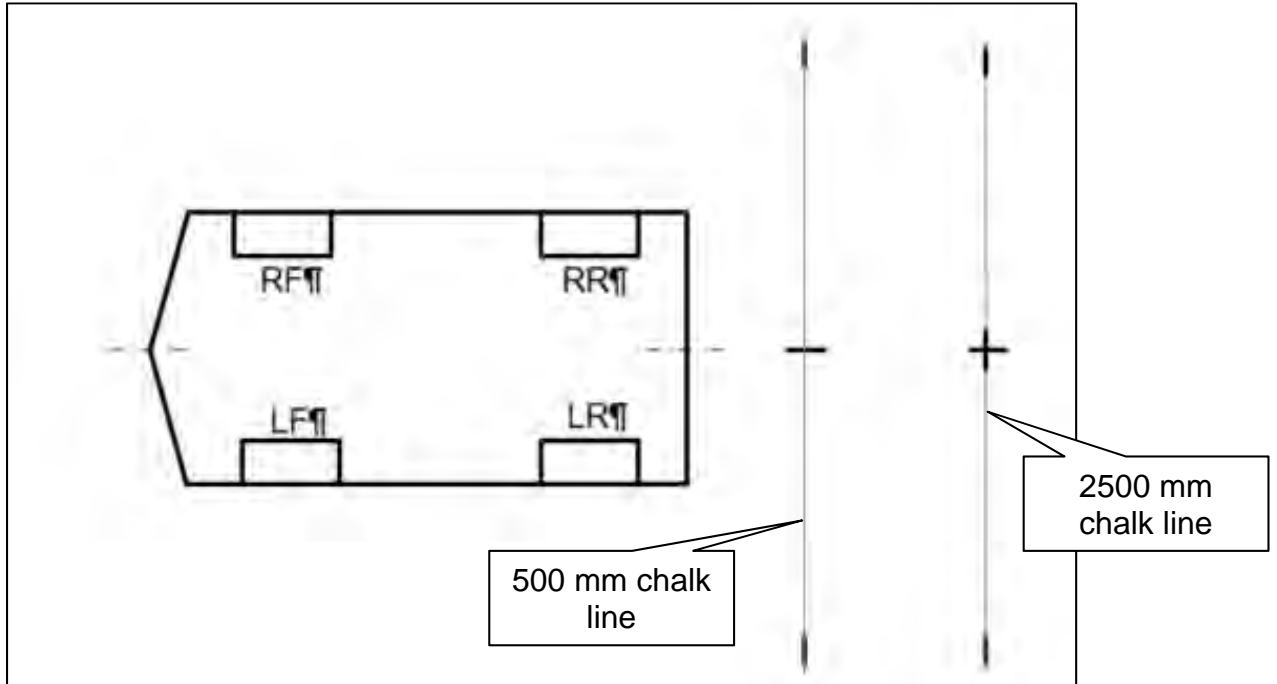
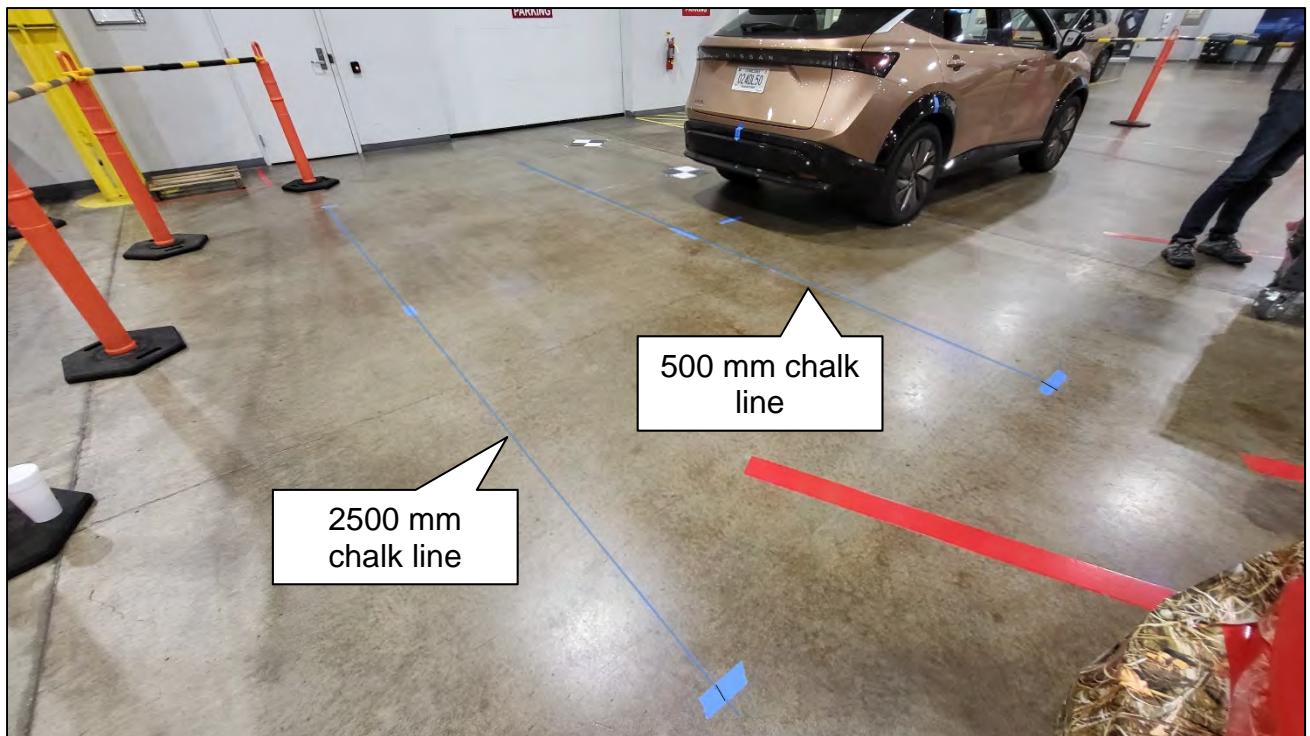

Figure 80
Figure 81
55. Use a chalk line tool to make a line between the 500 mm and 2500 mm marks, as shown in Figure 80 and Figure 81.